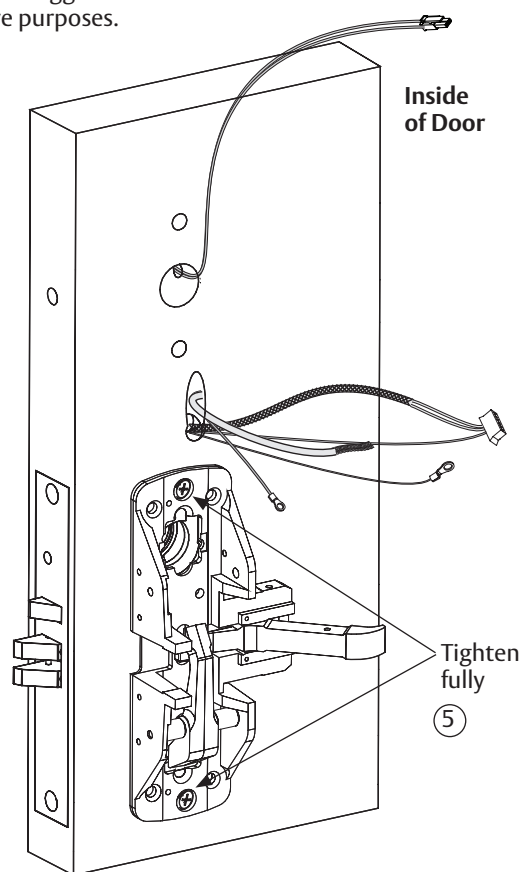

Figure 6-4B
5. Fully tighten two (2) chassis through bolts (Figure 6-4B).